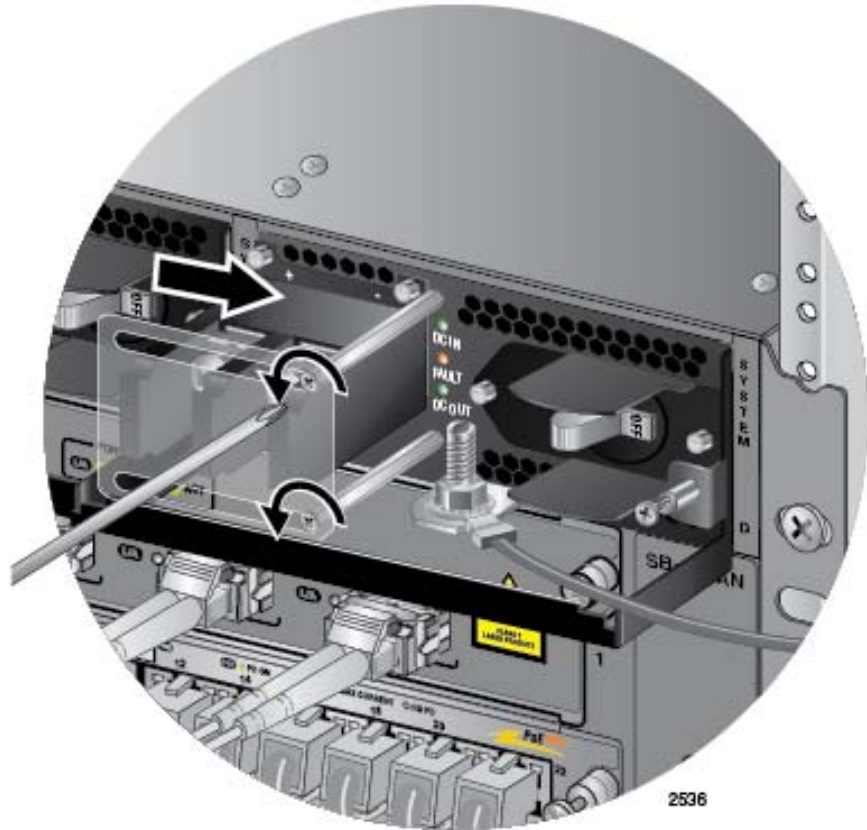

Figure 136. Opening the Plastic Cover
4. Use a #1 Phillips-head screwdriver to loosen the two screws on the plastic cover over the positive and negative terminals on the power supply and slide the cover to the right, as shown in Figure 136 on page 202. You may need to lift the locking handle slightly to access the bottom screw.
3. Use a #1 Phillips-head screwdriver to loosen the two screws on the plastic cover over the positive and negative terminals on the power supply and slide the cover to the right, as shown in Figure 136 on page 202. You may need to lift the locking handle slightly to access the bottom screw.